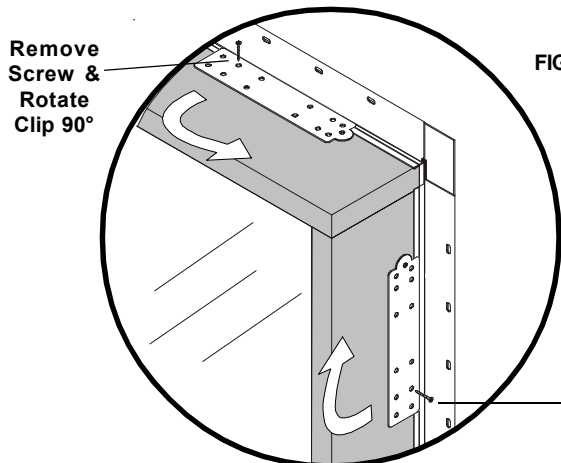

FIGURE 2
- 2) For units that were shipped with the installation clips factory applied, remove the bottom screw on the installation clip and rotate the clip towards the interior. (Fig. 2)